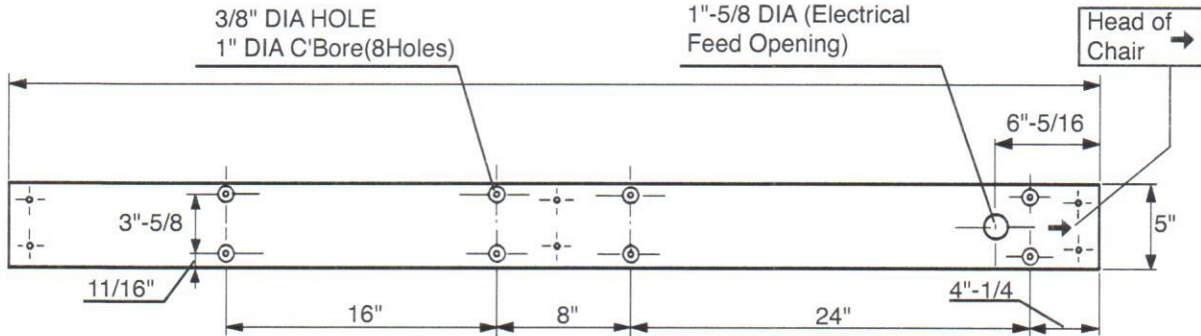

FIGURE 4 (1.2.)
1.2. ELECTRICAL PREPARATION - Refer to **FIGURE 4** for location of electrical feed opening in pallet, provide 3 wire, 115 V, 60Hz circuit (15 amp. fuse or breaker through flexible conduit with enough slack to protrude at least 2" below pallet when installed. Terminate conduit with 1/2" body box connector suitable for mounting through 3/16 thickness. A readily accessible shut-off switch for this circuit is recommended. Use wiring suitable for 90°C service. Installation to be done by a licensed electrician only, in accordance with the National Electrical Code(in the USA) or Canadian Electrical Code(in Canada), and local electrical codes as applicable.